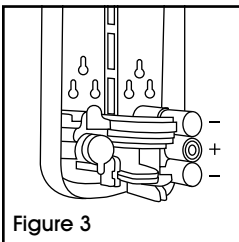

Figure 3
3. Use 3 high-quality C-cell alkaline batteries. Do not mix old and new batteries. (See Figure 3)